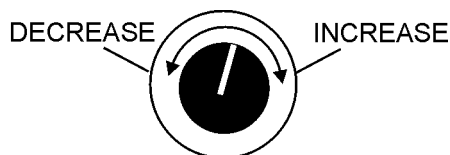

Figure 46. Voltage Adjust Control Knob
- If the voltage is not within the specified tolerance use the voltage adjustment control knob (Figure 46) to increase or decrease the desired voltage.